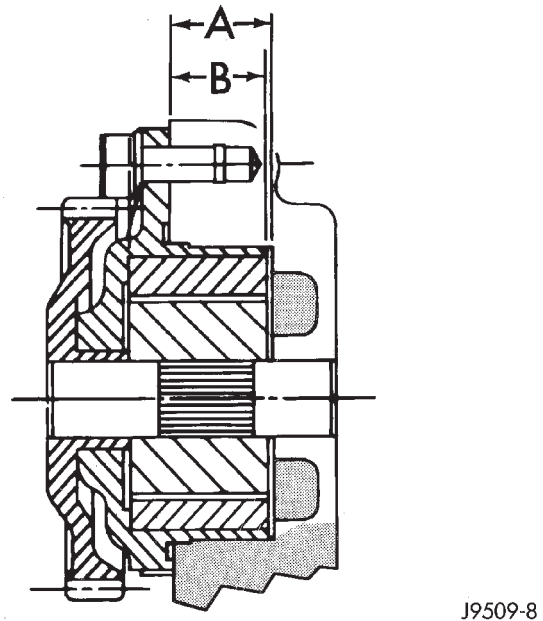

Fig. 123 Oil Pump Bore Depth
(1) Before installing oil pump check pump bore depth in block (A) and pump body height (B) (Fig. 123). Difference between A and B should be 0.020-0.082 mm.